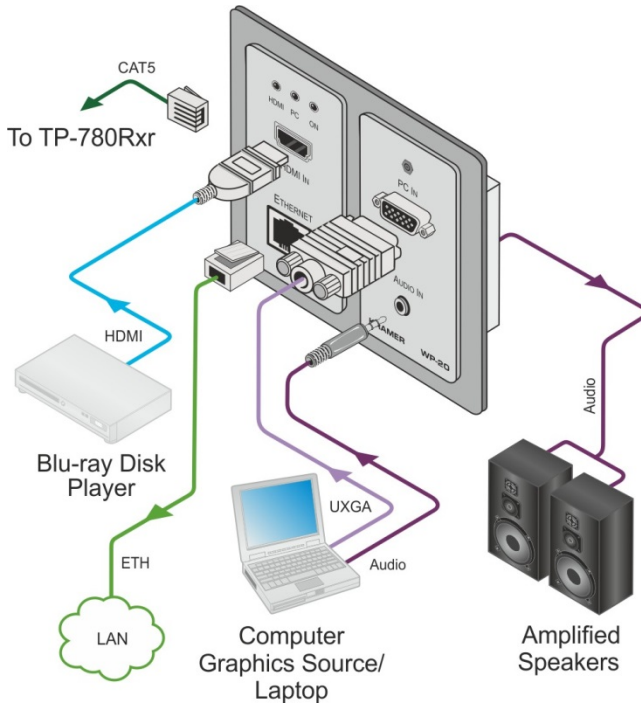

Figure 6: Connecting the WP-20 Wall Plate
To connect the **WP-20**, as illustrated in the example in Figure 6:
7. If the device is not connected to a PoE provider, connect the power adapter to the **WP-20** and to the mains power, (not shown in Figure 6).